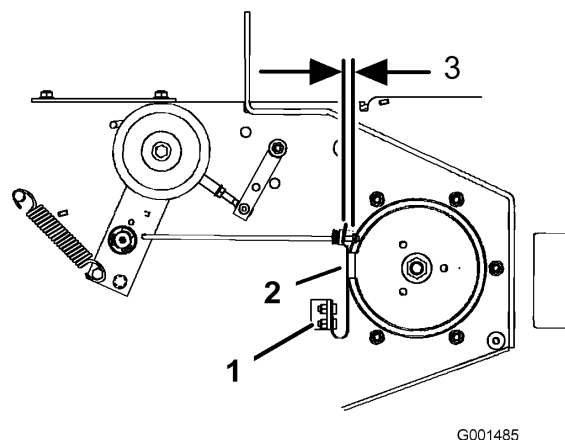

Figure 44
3. If necessary, adjust the spring mounting bolts so that the blade brake pad rubs against both sides of the pulley groove (Figure 44).
4. Adjust the nut at the end of the blade brake rod until there is 1/8-3/16 inch (3 mm -5 mm) between the nut and spacer (Figure 44).